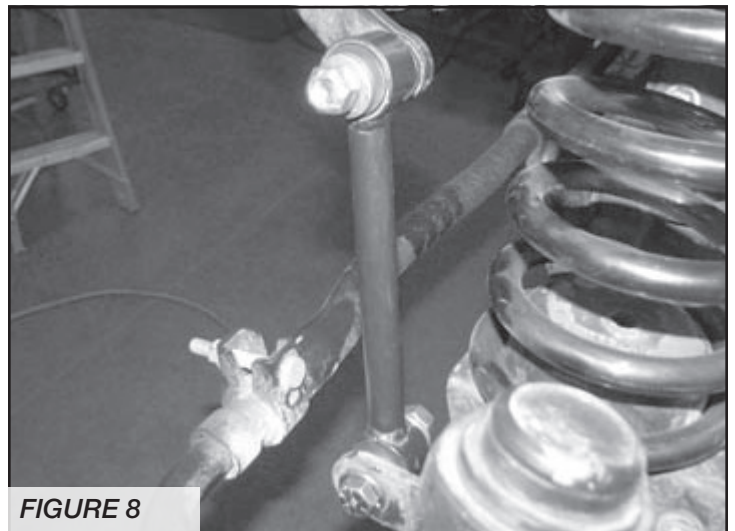

FIGURE 8
11. Locate FT50261BK Front Sway Bar End links, FT50048 & FT50089 bushing and sleeve kits. Press one bushing and one sleeve from the supplied bushing kit into each end of the end link. With the factory hardware, connect the new end link to the sway bar, then using the supplied $\frac{1}{2}$ " x 2-3/4" bolt, nut and washers, connect to the lower sway bar mount. Torque the sway bar hardware to 45 ft-lbs. SEE FIGURE 8